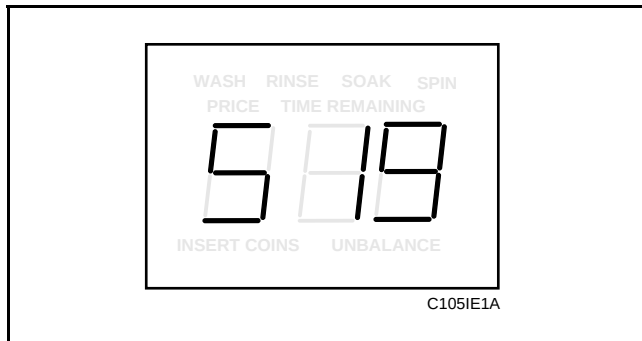

Figure 46
2. While pressing and holding the PERM PRESS keypad with one hand, press the COLD keypad with the other hand. Programmable option number one, “Slg”, will appear in the VFD. See **Figure 46**.